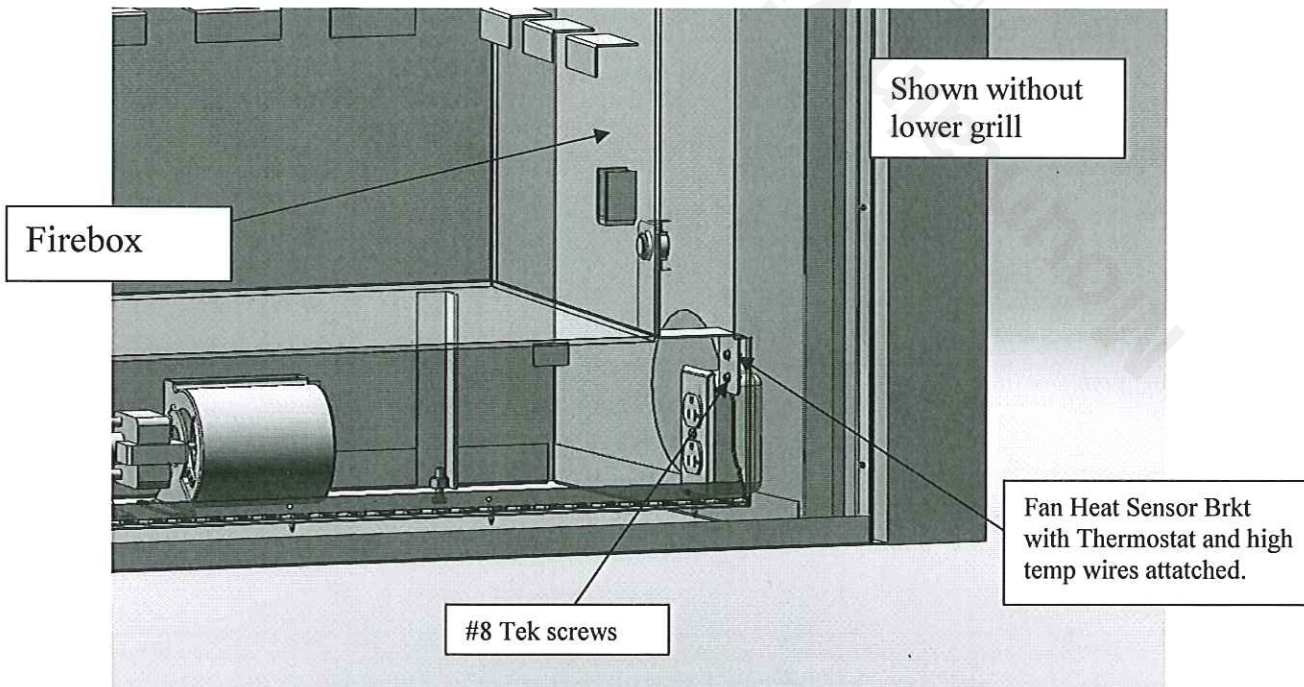

Figure 28
- 4) Slide the Thermo-Disk bracket up the inside of the fireplace so that the disk is located against the firebox as shown in Figure 28. The bracket should be raised just enough to hide the horizontal portion of the bracket and up against the right flange of the lower grill housing.
NOTE: If the Thermo-Censor does not kick in after 20-30 minutes after the fire is going, check to make sure that the sensor is up against the side of the firebox as shown in Figure 28. Check all electrical connections to make sure that everything was installed properly.